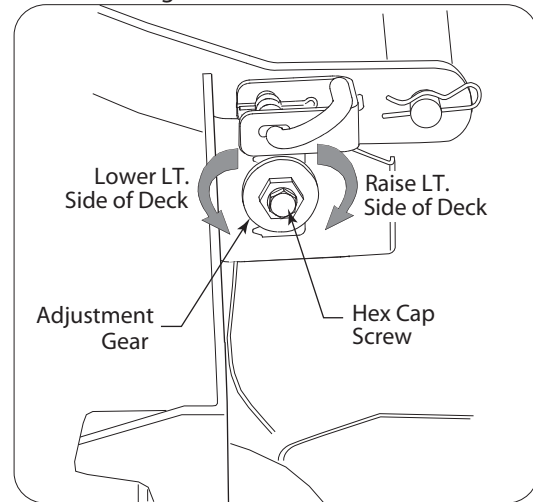

Figure 6-9
3. Working from the left side of the tractor, loosen, but do not remove, the hex cap screw on the left deck hanger bracket. See Figure 6-9.
5. To level the deck, turn the adjustment gear, located immediately behind the hex cap screw, counter-clockwise (toward front) to lower the left side of the deck. Turn the gear clockwise (rearward) to raise the left side of the deck. See Figure 6-9.